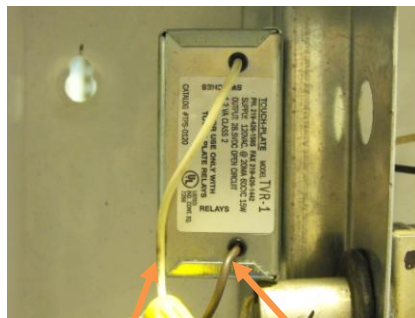

Figure 4.2
- i. Low Voltage Switch Leg from the Control Station to the Relay (1550/2500/3000/4000) – Figure 4.2